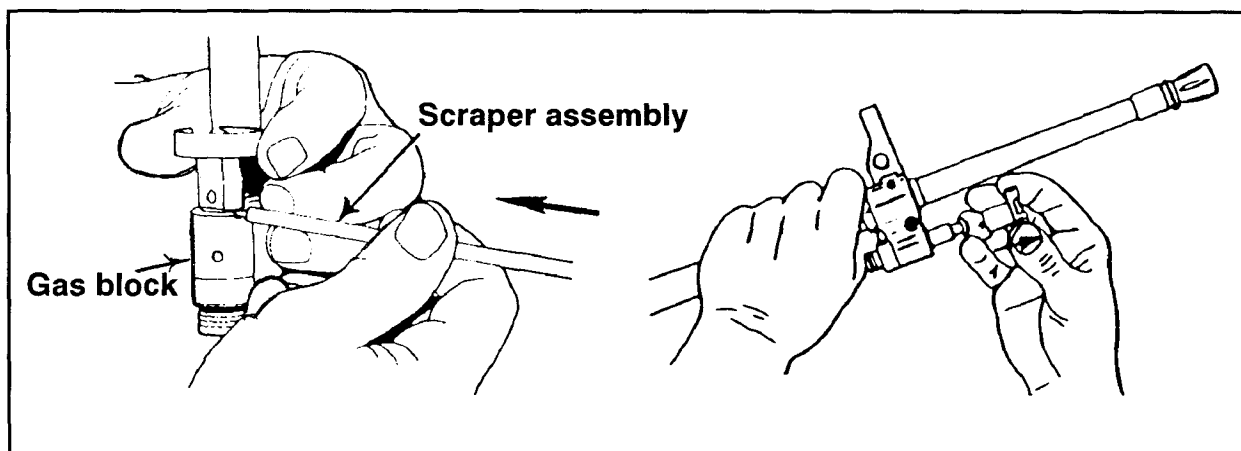

Figure 2-6. Removing the collar.
(2) Raise the feed cover.
(3) To remove the gas regulator and collar, rotate the gas collar pin out of the notch. Place the tip of the scraper with the concave side facing the pin of the collar inside the notch. (Be careful not to use too much pressure, so as not to break the tip of the scraper.) Rotate the collar counterclockwise over the concave portion of the tip on the scraper and past the notch until the collar slides off. (Figure 2-6.)